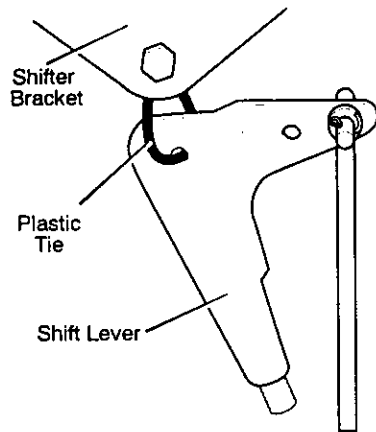

Figure 10
1. Cut plastic tie securing speed select lever assembly to the shifter bracket. See Figure 10.